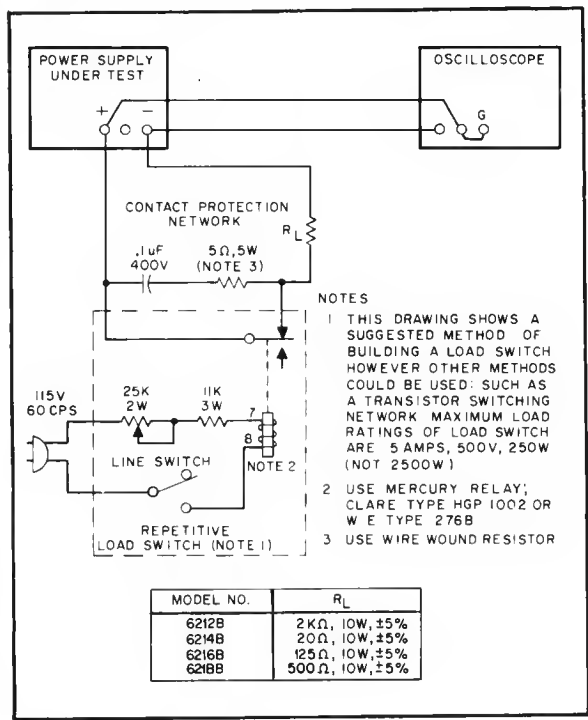

Figure 5-5. Transient Recovery Time, Test Setup
5-35 A mercury-wetted relay, as connected in the load switching circuit of Figure 5-5 should be used for loading and unloading the supply. When the load switch is connected to a 60 Hz AC input, the mercury-wetted relay will open and close 60 times per second. Adjustment of the 25 k control permits adjustment of the duty cycle of the load current switching and reduction in jitter of the oscilloscope display.
5-36 The maximum load ratings listed in Figure 5-5 must be observed in order to preserve the mercury-wetted relay contacts. Switching of larger load currents can be accomplished with mercury pool relays; with this technique fast rise times can still be obtained, but the large inertia of mercury pool relays limits the maximum repetition rate of load switching and makes the clear display of the transient recovery characteristic on an oscilloscope more difficult.
- Connect test setup shown in Figure 5-5.